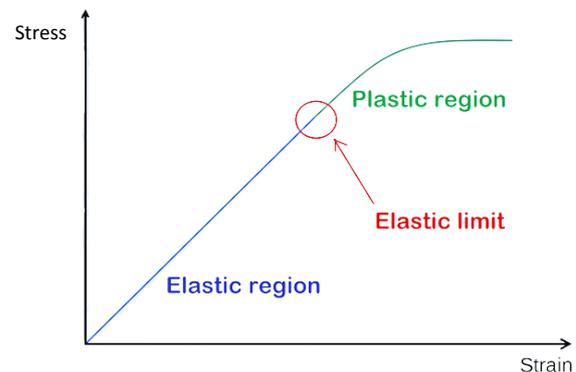

Figure 3.12 : The Elastic Limit shown in a Stress-Strain Curve
The elastic limit is the beginning point of plastic deformation for ductile materials, as shown in **Figure 3.12**. The elastic limit of a solid refers to the maximum extent to which it may be stretched without permanently changing its size or shape.
- Strain offset method as in Figure 3.12 (b) :